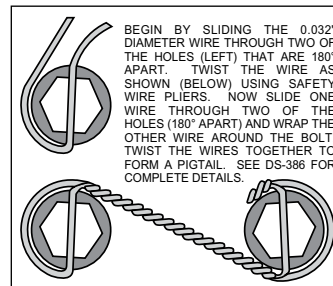
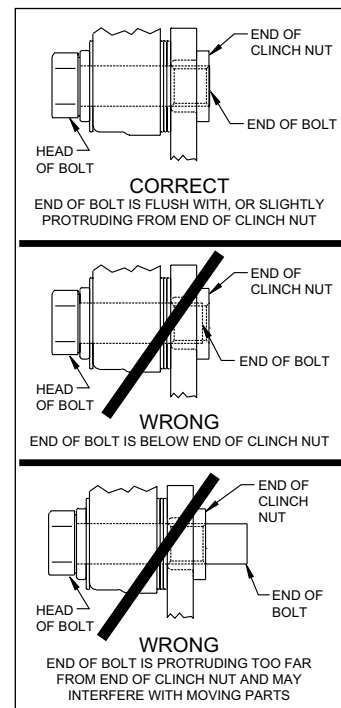

Figure 4. Safety Wire Diagram
Figure 5. Clinch Nut Engagement Diagram
**CAUTION:** All mounting bolts must fully engage clinch nuts. Be sure to check that all bolts are either flush or protruding through flanged side of clinch nut after shimming, Figure 5.
- Install wheel studs (4) into the hub (5), Photo 2. Torque to 77 ft-lb. **NOTE:** There are two five lug patterns in the hub (5 x 4.50 and 5 x 4.75). Ensure the correct hub stud pattern is being used to fit the wheel application.
- Pack the large inner bearing cone (6) with high temperature disc brake bearing grease (available from your local auto parts store) and install into the backside of the hub (5), Photo 3.
- Install the grease seal (7) by pressing into the backside of the hub (5), flush with the end of the hub, Photo 3.
- Orient the rotor (9) and the rotor adapter (8) as shown in Figure 2 and Photo 4. Attach the rotor to the adapter using bolts (10). Apply red *Loctite*® 271 to the bolt threads and torque to 25 ft-lb using a criss-cross pattern. Safety wire bolts using standard 0.032 inch diameter stainless steel safety wire as shown in Figure 4. Refer to Wilwood's data sheet DS-386 (available at [www.wilwood.com/Pdf/DataSheets/ds386.pdf](http://www.wilwood.com/Pdf/DataSheets/ds386.pdf)) for complete safety wire installation instructions.
mounting bracket (1) using bolts (17) and washers (18), as shown in Figure 2. Initially place two .035" thick shims (19) on each bolt between the caliper and the bracket, Photo 8. Temporarily tighten the mounting bolts and view the rotor (9) through the top opening of the caliper. The rotor should be centered in the caliper, Photo 9. If not, adjust by adding or subtracting shims (19) between the bracket and the caliper. Always use the same amount of shims on each of the two mounting bolts. **NOTE:** *The end of each bolt must be flush with or slightly protruding from the head of the clinch nut, as shown in Figure 5.* If necessary place spare shims (19) between washer (18) and caliper mounting ear to achieve the proper clinch nut engagement. Once the caliper alignment and clinch nut engagement are correct, remove the bolts one at a time, apply red *Loctite*® 271 to bolt threads, and torque to 40 ft-lb. For an added measure of security, the bolts may be safety wired using standard 0.032 inch diameter stainless steel safety wire as shown in Figure 4. Refer to Wilwood's data sheet DS-386 (available at [www.wilwood.com/Pdf/DataSheets/ds386.pdf](http://www.wilwood.com/Pdf/DataSheets/ds386.pdf)) for complete safety wire installation instructions.
- Install the disc brake pads (20) into the caliper, with the friction material facing the rotor (9), Photo 10, and secure in place using cotter pin (21), Photo 11.